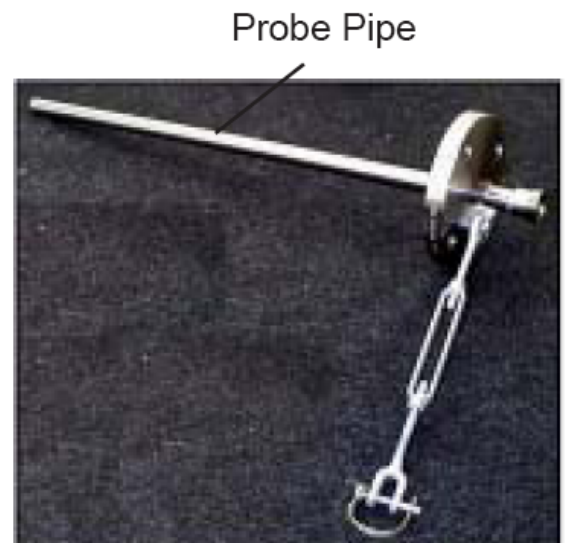

Figure 12
3. Install sampling probe pipe into pipe flange by inserting non-threaded end of probe pipe through flange (see Figure 12). Probe should extend into the center of the stack and pointing slightly downward to allow any entrained liquid to drain back into the stack.